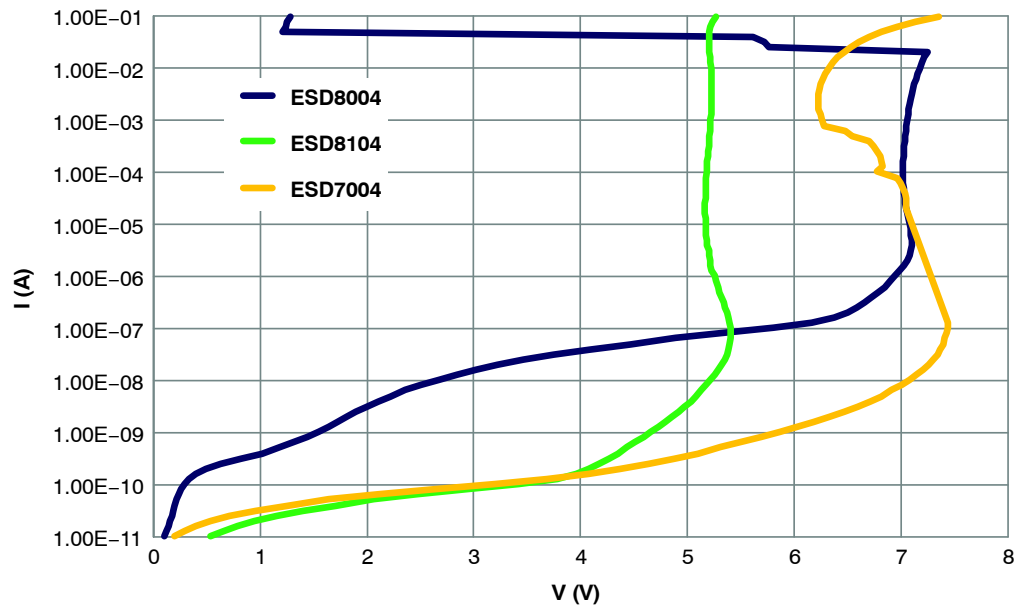

Figure 19. Low Current, DC, IV Characteristic of Each Technology
- **ESD8100 series:** Low voltage punch through (LVPT) type technology. The key advantage for this technology is a very low turn-on voltage as shown in Figure 19. This technology provides optimized protection for chipsets with small geometries against recoverable failures due to voltage peaks (also known as “soft failures”).